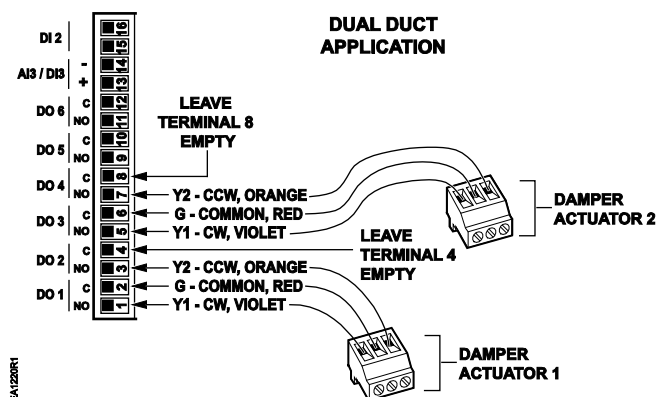

Figure 10. Dual Duct Application.
2. Plug pre-terminated connector for Damper Actuator 1 into DO 1 and 2, using terminals 1, 2, and 3 (Figure 10). Connector can only be installed one way with violet wire in terminal 1.
3. Plug pre-terminated connector for damper actuator 2 into DO 3 and 4, using terminals 5, 6, and 7 (Figure 10). Connector can only be installed one way with violet wire in terminal 5.